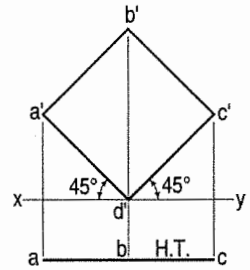

FIG. 12-9
**Problem 12-3.** (fig. 12-9): A square  $ABCD$  of 40 mm side has a corner on the H.P. and 20 mm in front of the V.P. All the sides of the square are equally inclined to the H.P. and parallel to the V.P. Draw its projections and show its traces.